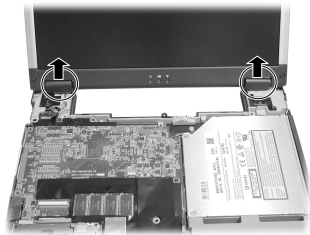

Figure 2-26 Remove two hinge covers
8. Remove the two hinge covers and disconnect two cables. (Figure 2-26)